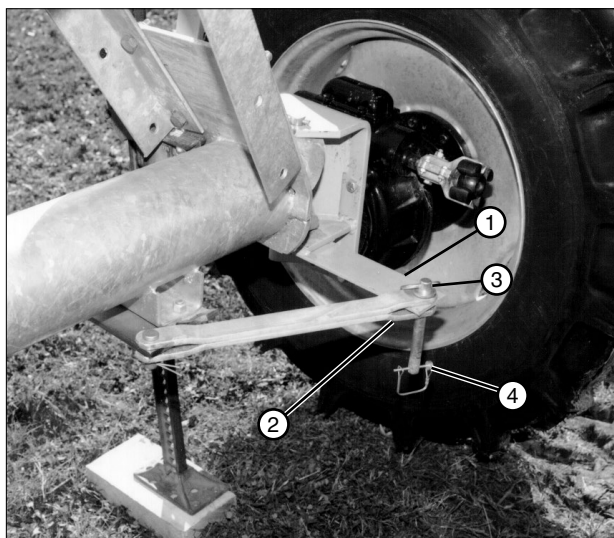

Figure 32-2 1. Steering Arm 2. Tow Link Bar Yoke 3. Torque Pin 4. Lynch Pin
9. Position steering arm in tow link bar yoke, align holes, then attach steering arm to tow link bar with torque pin. Secure torque pin with lynch pin. See figure 32-2.